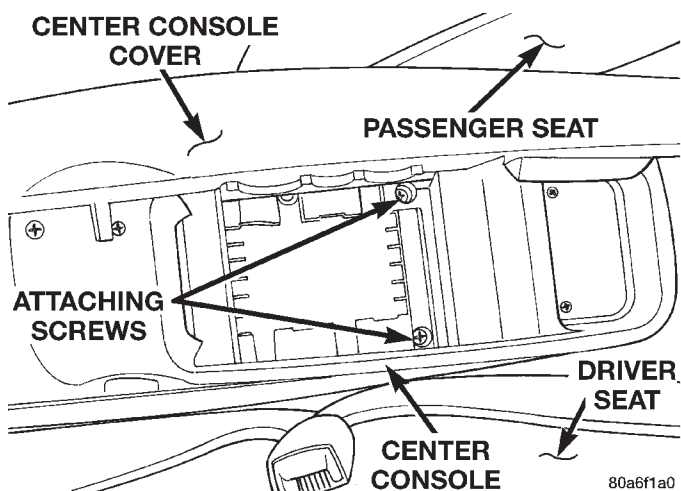
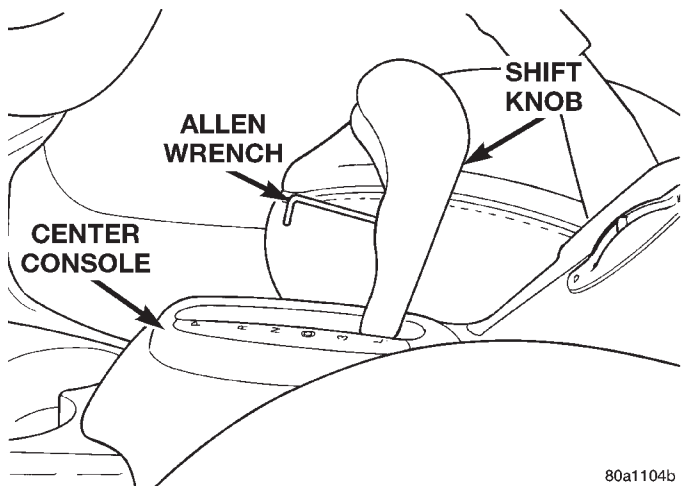
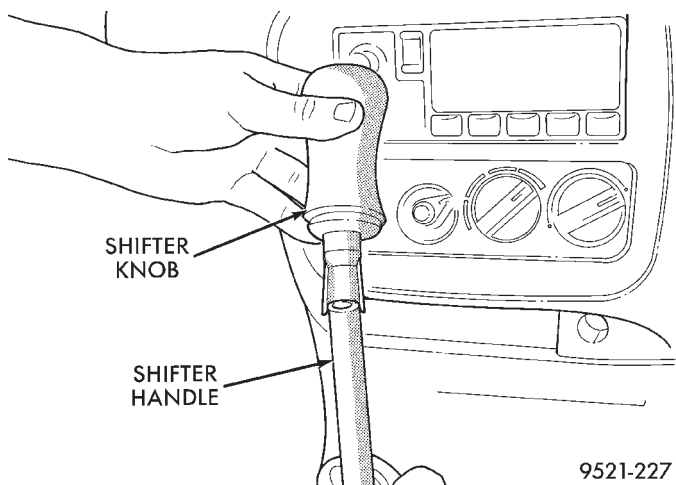

Fig. 119 Center Console Rear Attaching Screws
Fig. 120 Shift Knob Retaining Screw
Fig. 122 Gearshift Knob Removal
(1) Remove the 2 screws (Fig. 119) attaching rear of center console assembly to console bracket.
(2) If vehicle is equipped with an automatic transmission remove the shift knob from the shifter. The gear shift knob is attached to the shifter using a set screw (Fig. 120). Access to the set screw is from the front of the shift knob and is removed using a 2 mm allen wrench (Fig. 120).
- Remove the shifter knob from the shifter handle, by pulling the shifter knob straight up (Fig. 122).
(11) Install screws attaching rear of center console assembly to console bracket (Fig. 119).
(12) Install the shifter boot or PRNDL plate back in the center console.
(13) Install the shift knob on the shifter (Fig. 120) or (Fig. 122).